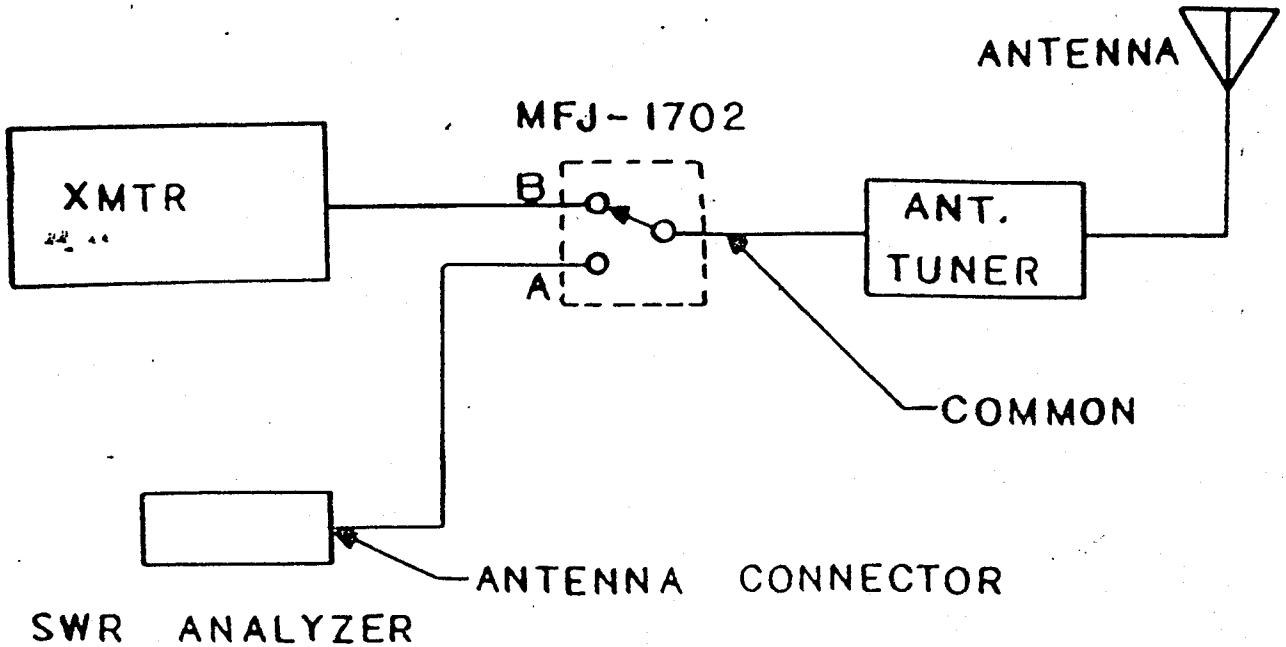

Figure 1 - Hook-up for Using Analyzer to Tune Antenna Tuner.
2. Connect a coax cable between the tuner's TRANSMITTER connector and the MFJ-247's ANTENNA connector. (See Figure 1.) This should be a 2-3 foot length of RG-58 or RG-8.